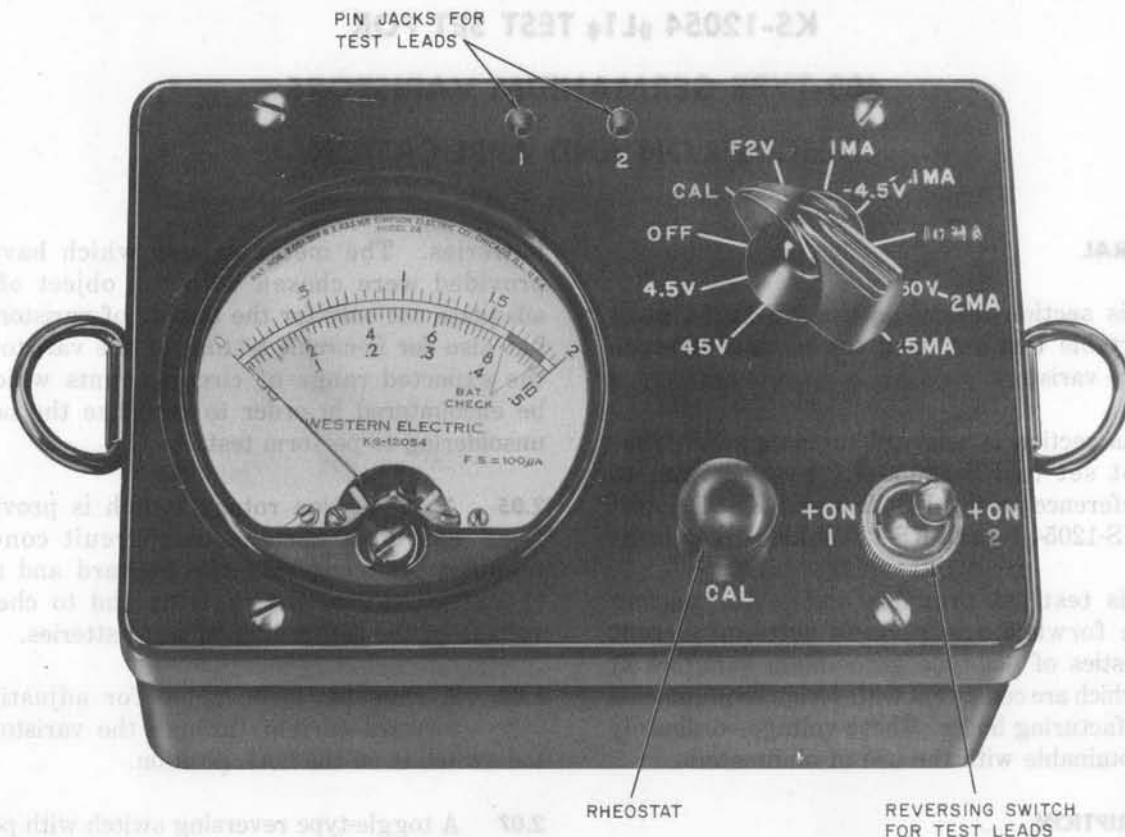

Fig. 1—K-12054 L1 Test Set—Top View
2.01 The test set is portable and is contained in a black phenolic case. The approximate dimensions of the set are 5 1/2 inches long, 3 3/4 inches wide, and 2 5/8 inches deep. The weight, less batteries, is approximately 1 1/2 pounds. The panel as viewed from the top is shown in Fig. 1. It is fastened to the casing by means of four screws which can be removed to make the panel, to which all the apparatus is attached, readily accessible for maintenance.